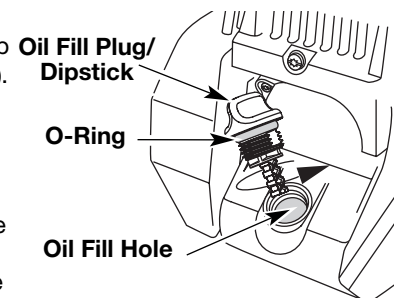

Fig. 29
6. If the level is low, add a small amount of oil to the oil fill hole and recheck (Fig. 29). Repeat this procedure until the oil level reaches the top of the dipstick.
**NOTE:** Make sure the O-ring is in place on the oil fill plug/dipstick when checking and changing the oil (Fig. 29).